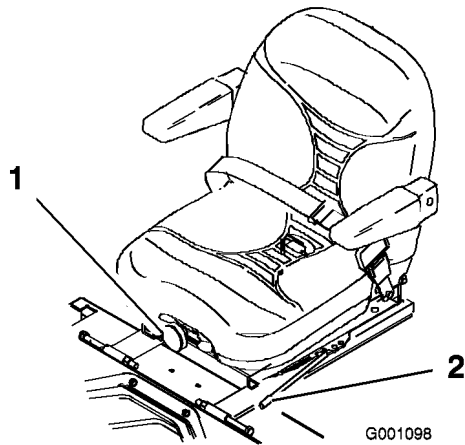

Figure 25
1. To adjust, move the lever sideways to unlock seat (Figure 25).
To adjust, turn the knob in front either direction to provide the best comfort (Figure 25).